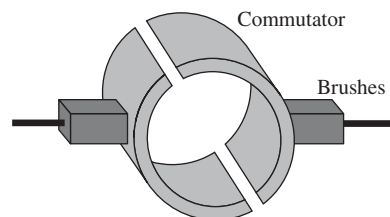

FIGURE 13.6 Brushes.
- **Brushes:** The electrical connections to the commutator are made by brushes as illustrated in Figure 13.6. In contrast to the slip rings found in AC motors, brushes are more prone to wear.